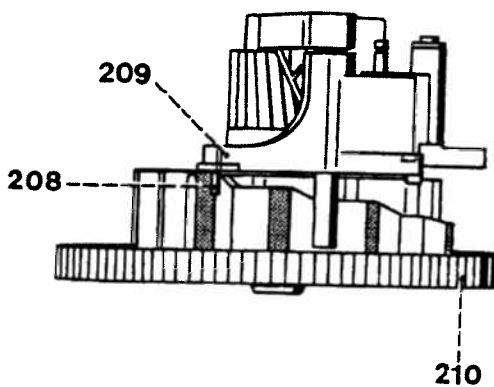

Fig. 18
With the automatic module switched off lifting pin 208 must be centered in the slot (fig. 18).
- Turn regulation disc 210 until lifting pin 208 is exactly in the middle of the slot (fig. 18).